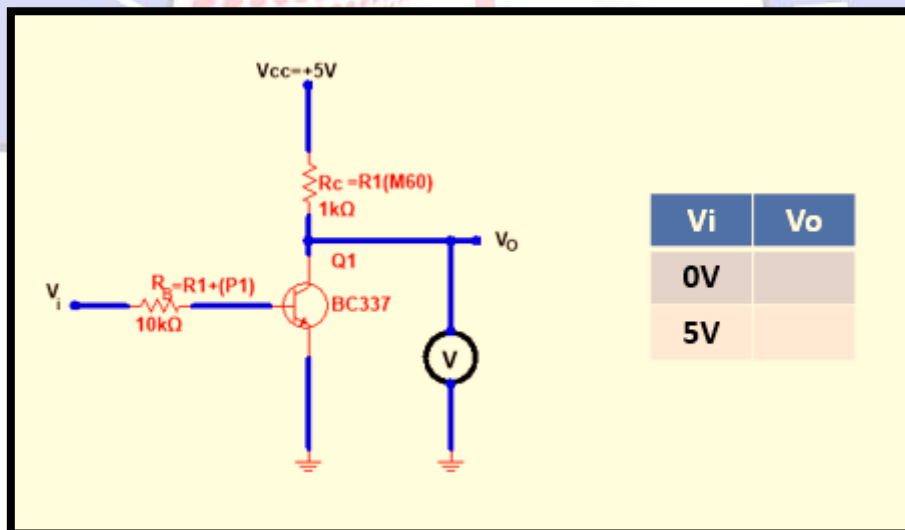

Figure 14: Practical Inverter Circuit
3. Connect the inverter circuit shown in Fig.14 and verify its operation. When  $V_i = 5V$  (HIGH), try to measure  $V_{BE}$  and  $V_{CE}$  of the transistor at saturation.
3. For the inverter circuit of Fig.14, prove that the transistor is working deeply in saturation when  $V_i = 5V$ . Assume that  $\beta = 150$  for the BC107 NPN transistor.